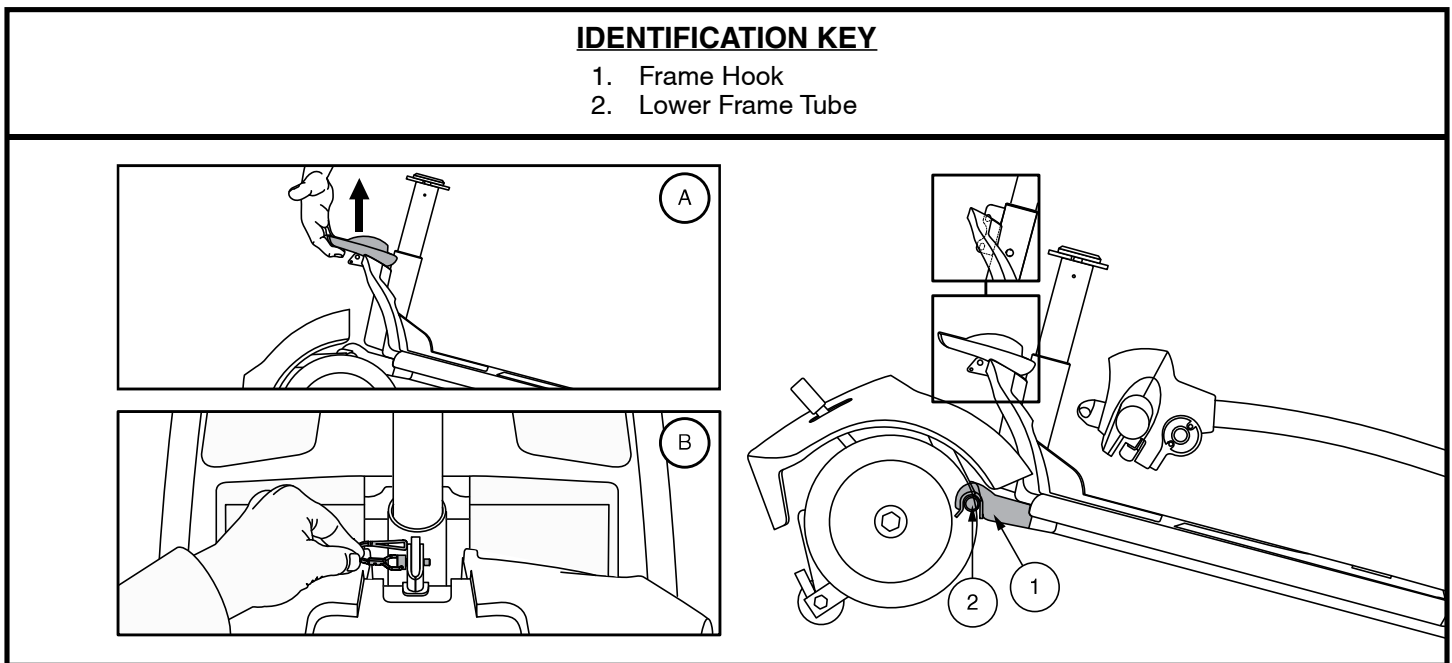

Figure 33. Frame Release Lever (Style A) and Frame Release Lock-up Pin (Style B)
4. Slowly separate the two sections of the Travel Scooter. See **figure 33**.
NOTE: Before attempting assembly, tilt the rear half of the Travel Scooter slightly back on the anti-tip wheels as shown in figure 33.
1. Use the frame release lever (or the seat post for models 29, 36, 336, 83, and 84 only) to lift the front section as you align the frame hooks of the front section with the lower frame tube of the rear section. See **figure 33**.
2. Once the frame hooks are over the lower frame tube, lower the front section and pivot the rear section simultaneously. This will engage the frame lock-up automatically for models AAP4, 39, 40, 44, 40LX, 40X, 44X, 40E, 44E, 44LX, 49, 50LX, 50LXLIT, 54LX, 54LXLIT, 53, 53HD, 54, 54HD, 66, 67, 73, 74, and Jazzy ZTS. For models 29, 36, 336, 83, and 84, you will also need to reinstall the frame lockup pin to complete the body assembly. See **figure 33**.